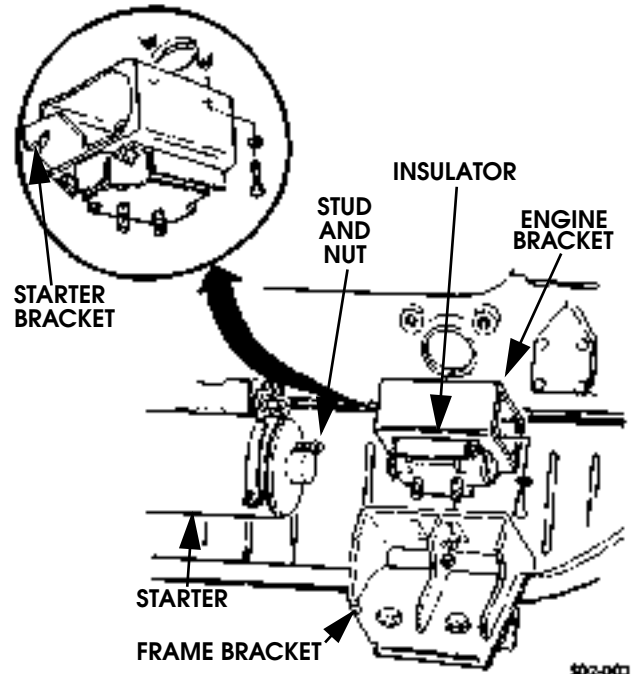

Figure 2-12: Engine Mounting Bracket and Insulator (Driver Side)
10. Remove nut securing engine bracket to stud on starter motor (Figure 2-12).
11. Raise engine enough to remove insulator, or bracket (Figure 2-12).
14. Install nut that secures engine bracket to stud on starter motor (Figure 2-12). Tighten nut to 24 lb-ft (33 N•m) torque.